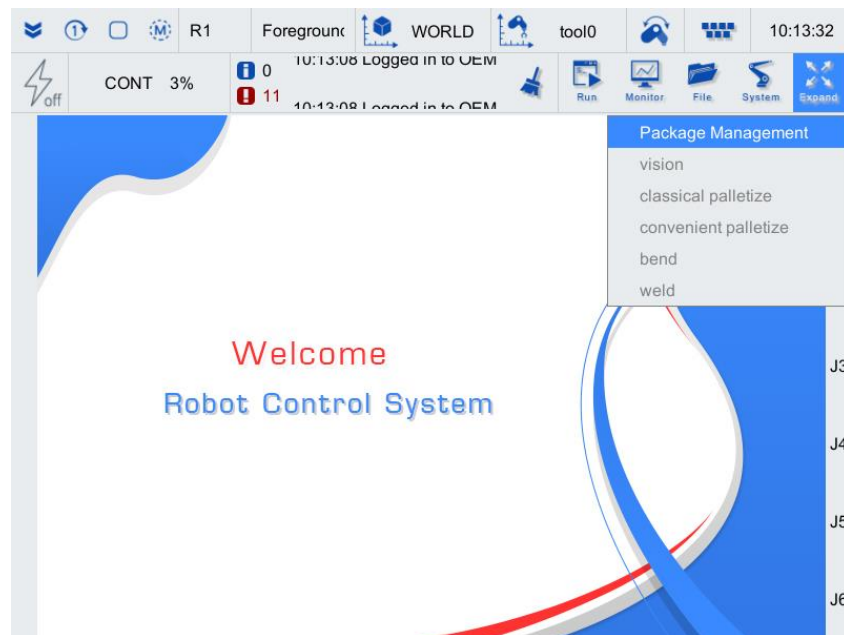

Figure 4-1 List of feature pack
- Step3. Click "Expand" button to pop up the drop-down list shown in Figure 4-1.